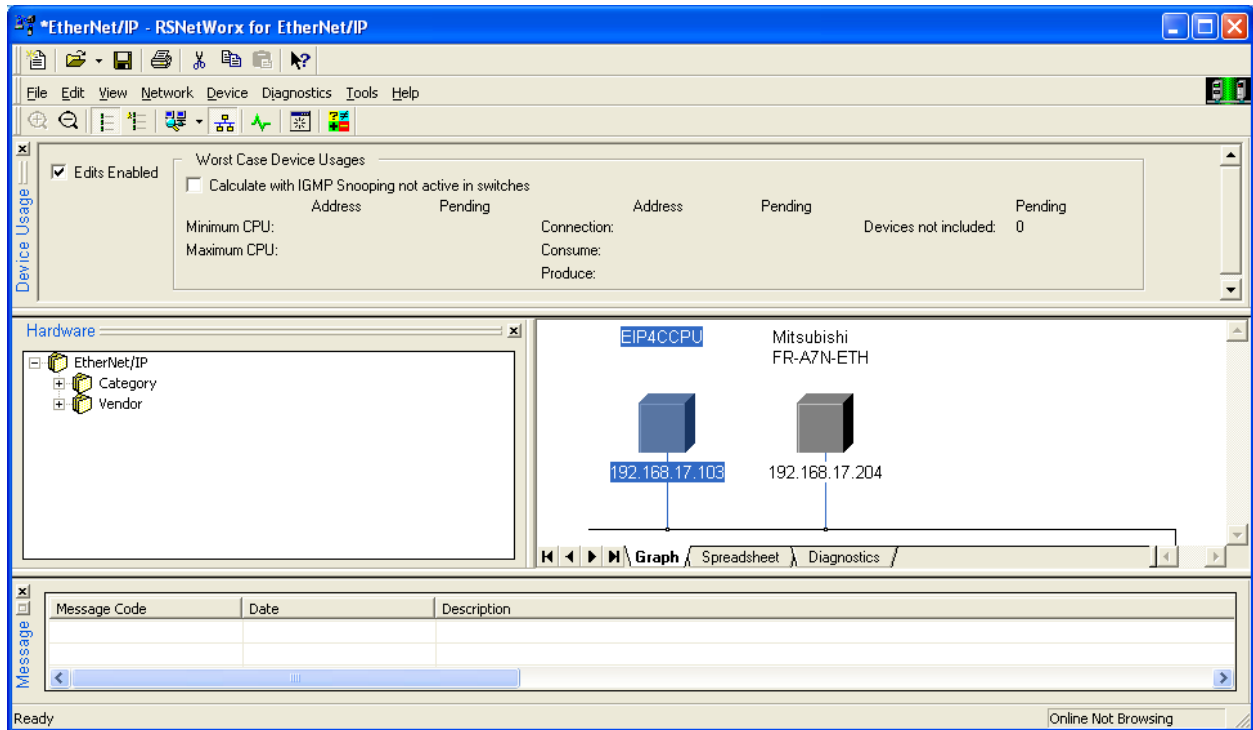

Figure 64: RSNetWorx Online
- c) Browse the EtherNet/IP network. Navigate to Network->Online. All nodes connected to the network should appear in the graph (see Figure 64).